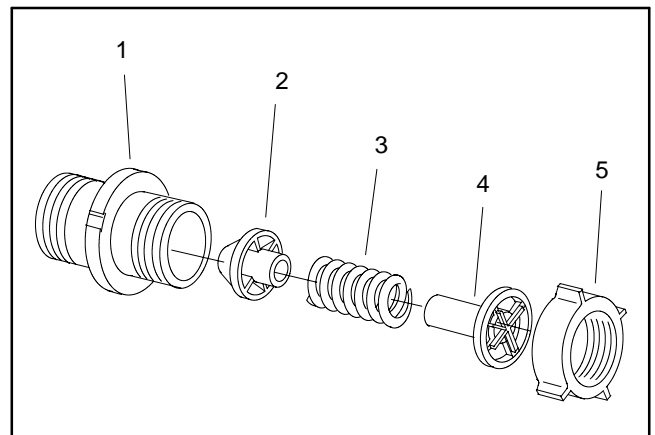

Figure 23
5. Disassemble relief valve using Fig. 23 as a guide.
1. Assemble relief valve using Fig. 23 as a guide.